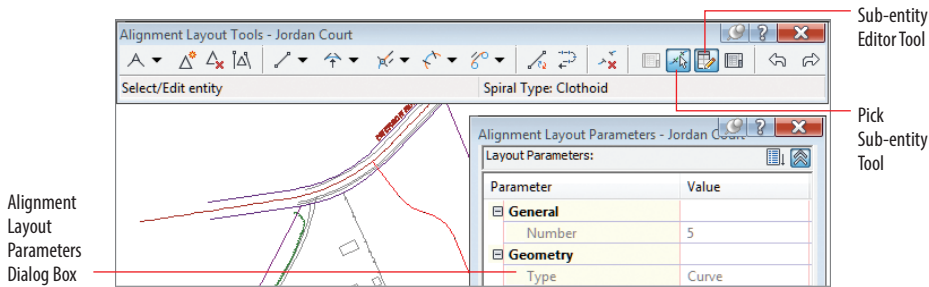

FIGURE 5.14 The Sub-entity Editor Tool, Pick Sub-entity Tool, and Alignment Layout Parameters dialog box
This populates the Alignment Layout Parameters dialog box with data, as shown in Figure 5.14.
4. Click Pick Sub-entity (see Figure 5.14), and then click the curve at the 90° bend on Jordan Court.
5. Type 50 (15) for Radius, and press Enter.